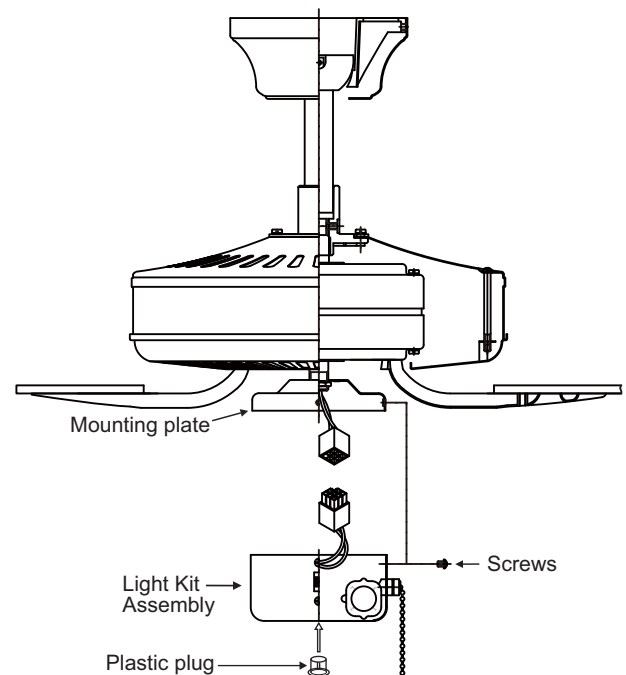

Figure 19
1. Install 2 x 7W LED bulbs (provided). (Fig. 19)
2. Attach the plastic plug to the switch housing. (Fig. 19)
3. Install the switch housing to the mounting plate with screws provided. (Fig. 19)